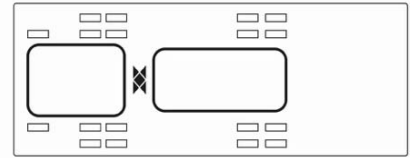

Figure 5-1
- 2) All of the programmed wheel positions will be displayed (see **Figure 5-1**).